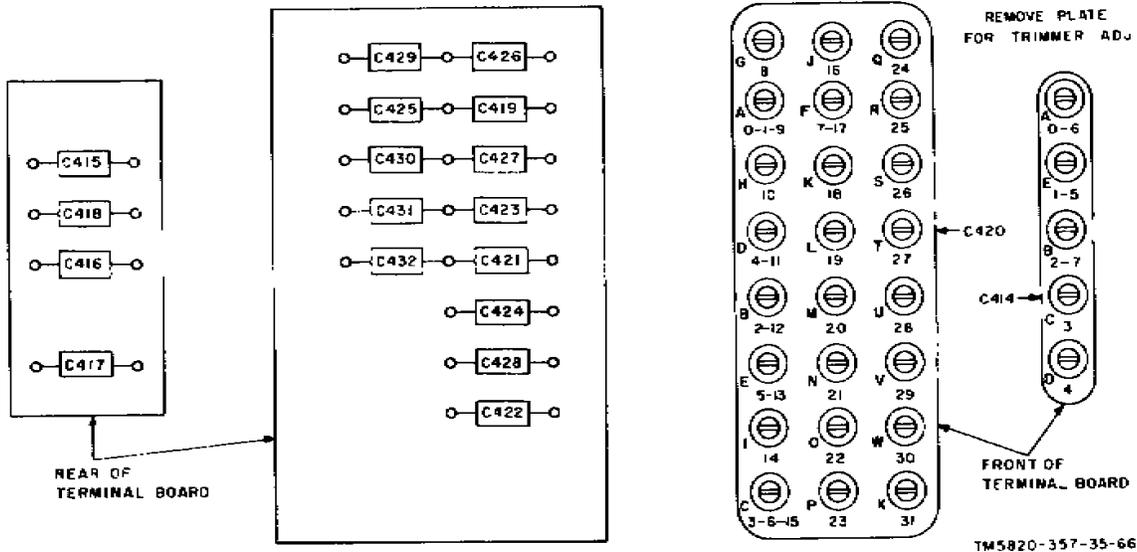

Figure 46. Location of crystal oscillator tuning capacitors
*g.* Adjust the second crystal-oscillator trimmers (large group of trimmers on rear panel (fig. 46)), using the chart below. Set the MEGACYCLE CHANGE control for a megacycle reading on the frequency indicator shown in the first column, and adjust the trimmer designated in the second column for the meter indication shown in the last column. Where a trimmer is used in the crystal-oscillator circuit at more than one frequency setting of the MEGACYCLE CHANGE control, it is listed only for the first setting and is adjusted for maximum only at this setting. For subsequent frequency setting of the MEGACYCLE CHANGE control involving a previously adjusted trimmer, check only for an indication on the TS-505(\*)/U. If no indication is obtained, check the crystal-oscillator bandswitch.
e. Adjust the first crystal-oscillator trimmers (group of five trimmers on the rear panel (fig. 46)), using the chart below in the manner described in paragraph 77.